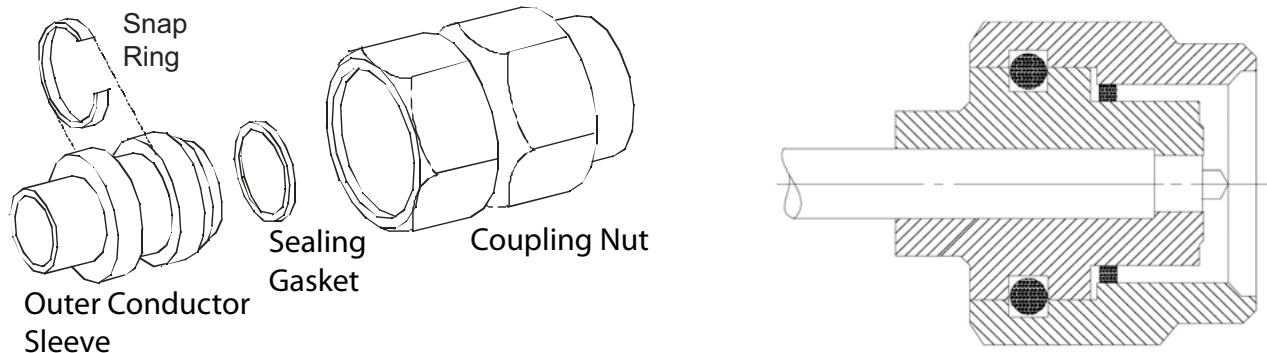

Figure 2-1. V101M-R Assembly
Fabrication instructions for the cable assembly are given below. Refer to Figure 2-1 to identify the connector parts referenced in the procedure.
22. Referring to Figure 2-1, right, inspect the cable assembly to ensure the following: